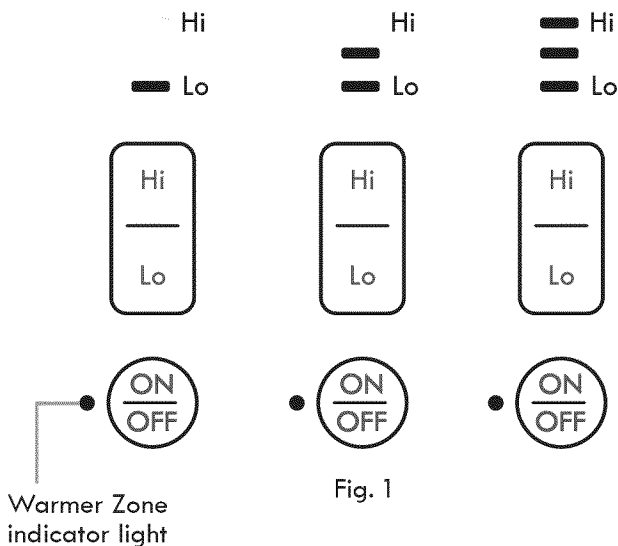

Fig. 1
3. To set heat level press **Hi** or **Lo** keypad and if needed toggle using these keypads to adjust to the desired power level setting. Release keypad when desired heat level is displayed by the indicator lights. Fig. 1 below shows examples for low, medium and high settings.